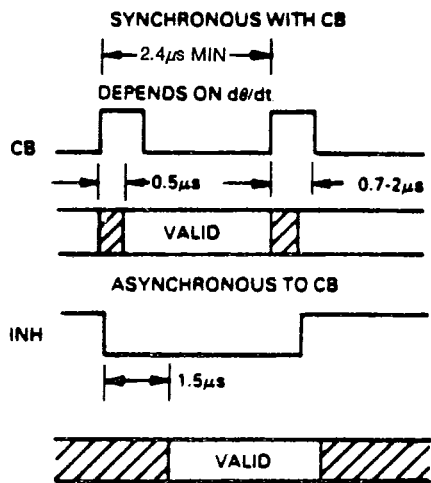

FIGURE 3. TIMING DIAGRAM
The Direction Output (U) is valid as shown in Figure 3. It is logic 1 for counting up and logic 0 for counting down. Logic level at the (U) pin is valid up thru $0.5 \mu s$ before and $0.1 \mu s$ after the leading edge of the (CB) pulse.
Figure 3 shows the timing waveforms of the converter. Whenever an input angle change occurs, the converter changes the digital angle in 1 LSB steps and generates a converter busy pulse. The output data change is initiated
by the leading edge of the CB pulse, delayed by the 0.2 μs (nominal) delay. The output becomes stable in less than 0.5 μs even though the CB pulse may last longer. Data transfer can be made synchronous with the leading edge of CB, delayed by 0.5 μs. (See Figure 3. Timing Diagram.)